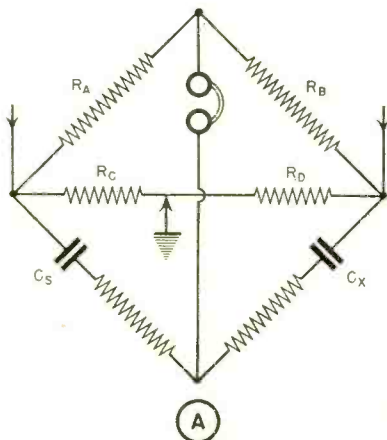

Fig. 6. Bridge with Wagner ground; and method of balancing.
Large conductors are necessary with relatively close spacing to obtain the required low impedance for the transformer. However, any other construction could be employed providing the proper impedance is obtained. A concentric transformer could be used but not as good a balance would result. A cage transformer, made up of several pairs of wires in parallel, as in Fig. 6, could be employed with good results. Full details of this system are described by Carl J. Madsen, April 1937 RADIO; and Leigh Norton, November 1938 RADIO.
ground circuit R_C and R_D , we have Fig. 6-A.
The presence of R_C and R_D does not affect the preliminary balance made by adjusting R_A and R_B . Then by switching to the circuit of Fig. 6-B we balance the auxiliary circuit by means of the potentiometer arm on R_C and R_D , leaving the arm between R_A and R_B untouched. The circuit is then switched back to Fig. 6-A and rebalanced, then to Fig. 6-B and rebalanced, and so on. The number of trials necessary is usually very few. In this manner the effect of coupling from the signal input generator, as well as stray couplings to ground may be largely balanced out. This switching arrangement from Fig. 6-A to Fig. 6-B is obvious. Thus, there are two means of overcoming the effect of stray coupling, (1) the simple bridge with the adjustable ratio
arm grounded, Fig. 2, and (2) the bridge with the Wagner ground circuit Fig. 6-A.